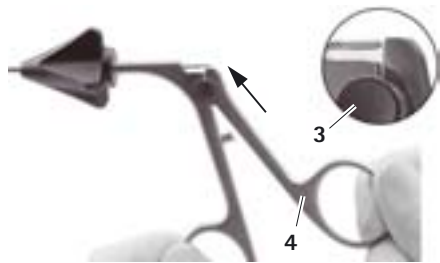

Fig. 10
- Hold working insert **7** and push up moveable handle part **4** until button **3** engages, see Fig. 10.